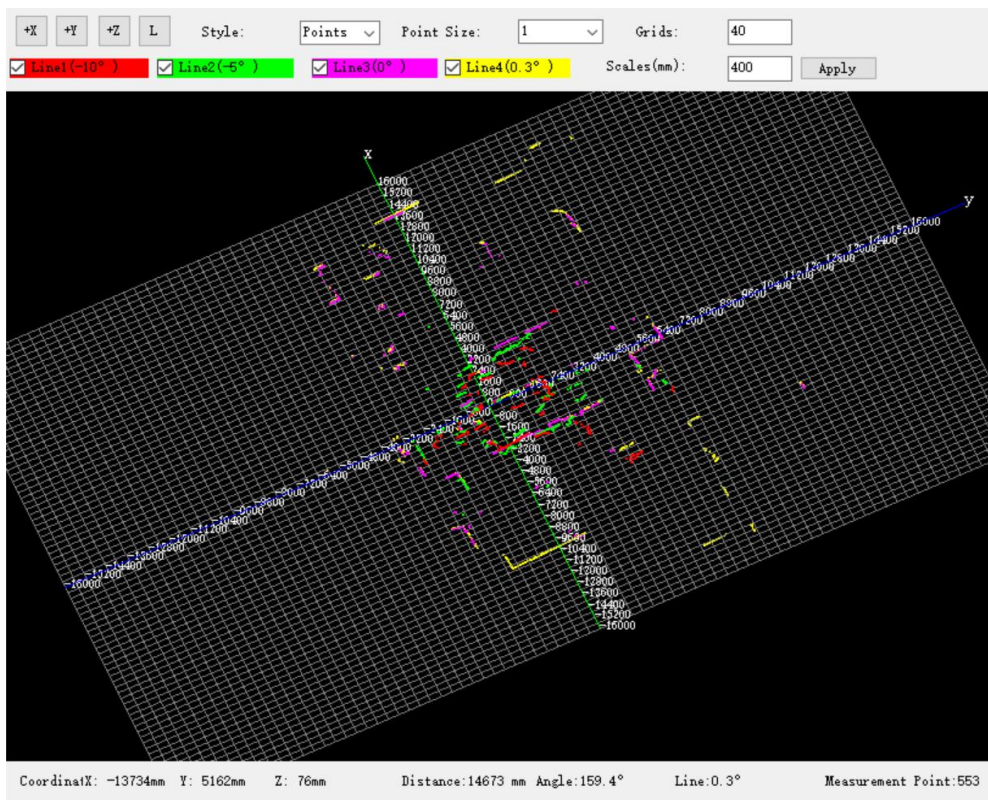
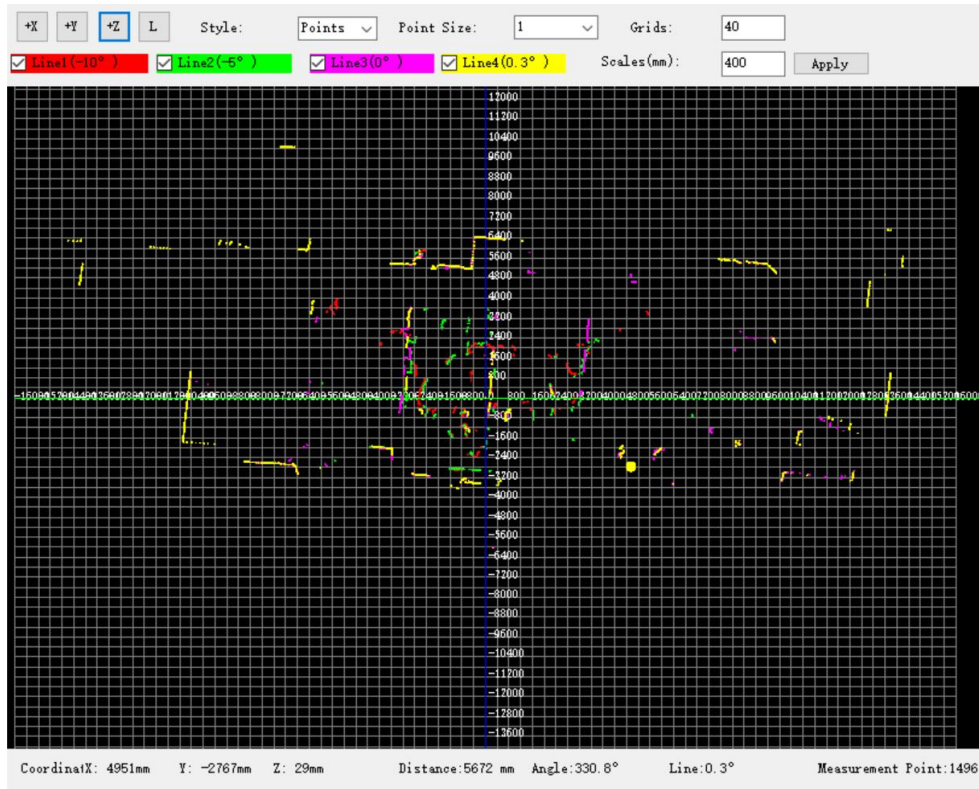

Figure 4.13 Flipping view
Figure 4.14 +Z view
1) View switch . It is used to switch views from different angles to facilitate data observation. The flipping view may occur, as shown in Figure 4.13, the view is not parallel to the interface. For the convenience of observation, you can click the button , and the point cloud image is facing the eyes, as shown in Figure 4.14.